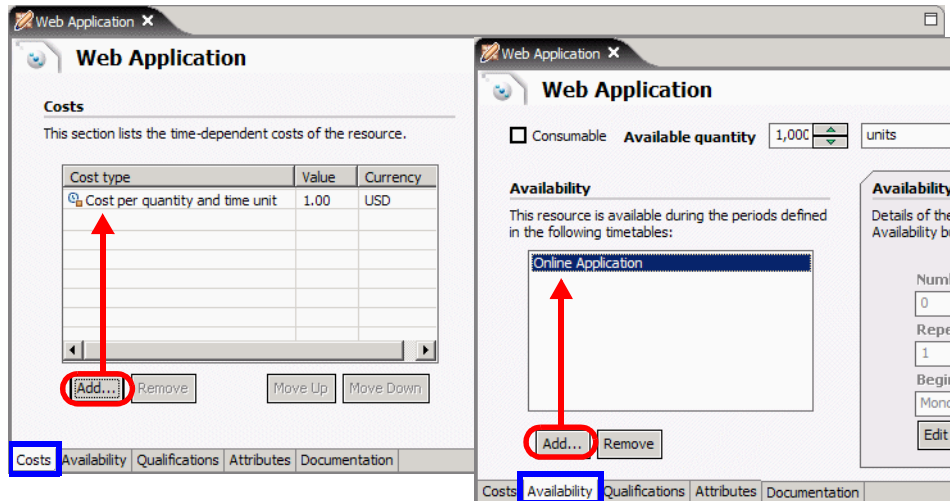

Figure 6-6 Web Application bulk resource cost and availability
- ▶ Populate the Web Application resource with the cost (Figure 6-6):